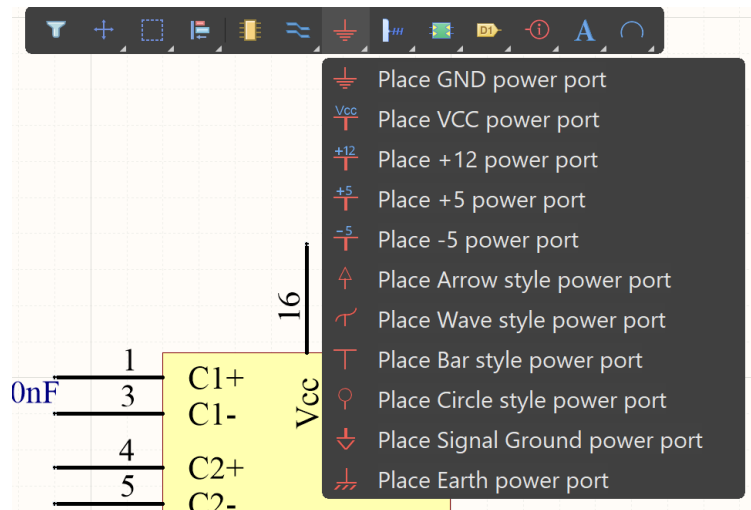

Figure 10: Path to Select Ground Node
20. Right click on the ground symbol on your top toolbar as shown in Figure 10.